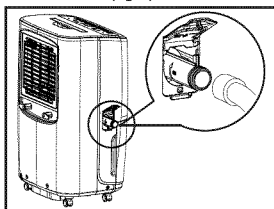

fig. 4
- Screw the garden hose onto the threaded portion of the drainage joint. (fig.4)